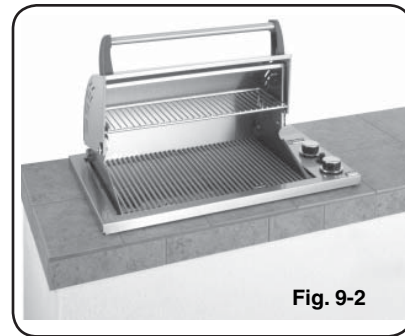

Fig. 9-2
- c. Lower the barbecue into place, making sure not to pinch or kink the gas connector. The unit will rest on the counter (Fig. 9-2).